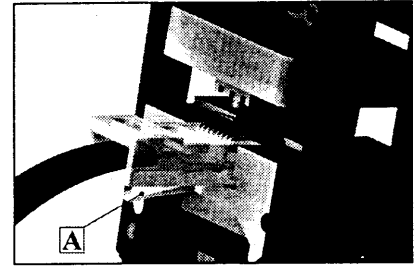

Fig.3.
After cable and microplug have been prepared, open handtool and insert microplug assembly into the opening of the die set (as shown on Fig.3.) until plugs' locking tab (A) snaps into place. Check if microplug is properly positioned in the die set and slowly close the tool completely until ratchet mechanism is released. Press locking tab (A) on the microplug and remove crimped connection from the die set.